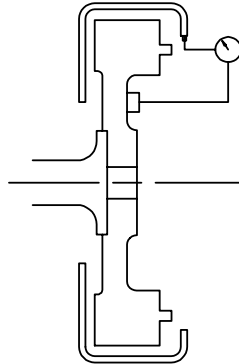

Figure 2. Checking Flywheel Housing Bore
4. Readjust the indicator so the stem rides on the pilot bore of the flywheel housing face. See Figure 2.